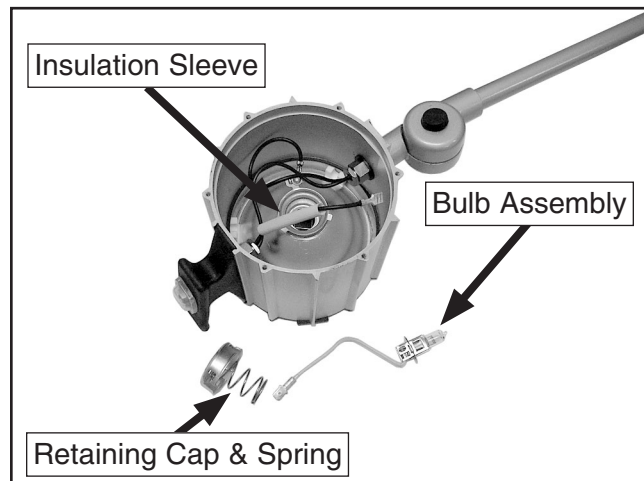

Figure 4. Bulb assembly and retaining cap removed from the lamp housing.
6. Slide the insulation sleeve surrounding the bulb assembly connection down the wire, then carefully pull the connection apart, as shown in **Figure 4**.